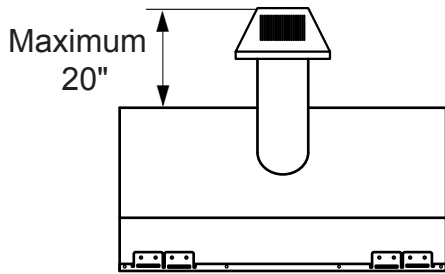
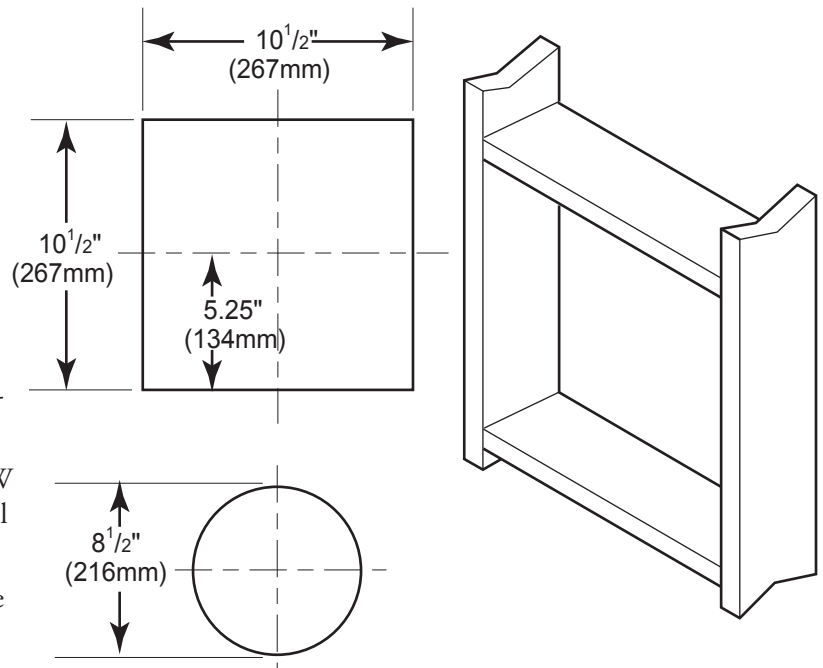

Figure 11 - Rear Vent Application, Maximum Horizontal Distance
Figure 12 - Vent Opening Requirements
The maximum horizontal distance between the rear of the appliance and the outside of termination is 20" (508 mm). See Figure 11.
1. Locate and cut the vent opening in the wall. For combustible walls first frame in opening. See Figure 11.
Combustible Walls: Cut a 10½"H x 10½" W (267mm x 267mm) hole through the exterior wall and frame as shown. See Figure 12.
3. Attach vent pipe assembly to the fireplace. Set fireplace in front of its permanent location to insure minimum clearances. Mark the wall for a 10½"H x 10½"W (241mm x 241mm) square hole (for noncombustible material such as masonry block or concrete, a 8½" [216mm] diameter hole is acceptable). See Figure 11. The center of the hole should line up with the center line of the horizontal rigid vent pipe end. Be sure to allow for minimum rise. Cut a 10-1/2"x10-1/2" (267mm X 267mm) square hole through combustible exterior wall (8½" [216mm] diameter hole if noncombustible). Frame as necessary. Allow ¼" minimum rise per foot. See Figure 12.
1. Establish vent hole through the wall. *See Figure 12, page 17.*